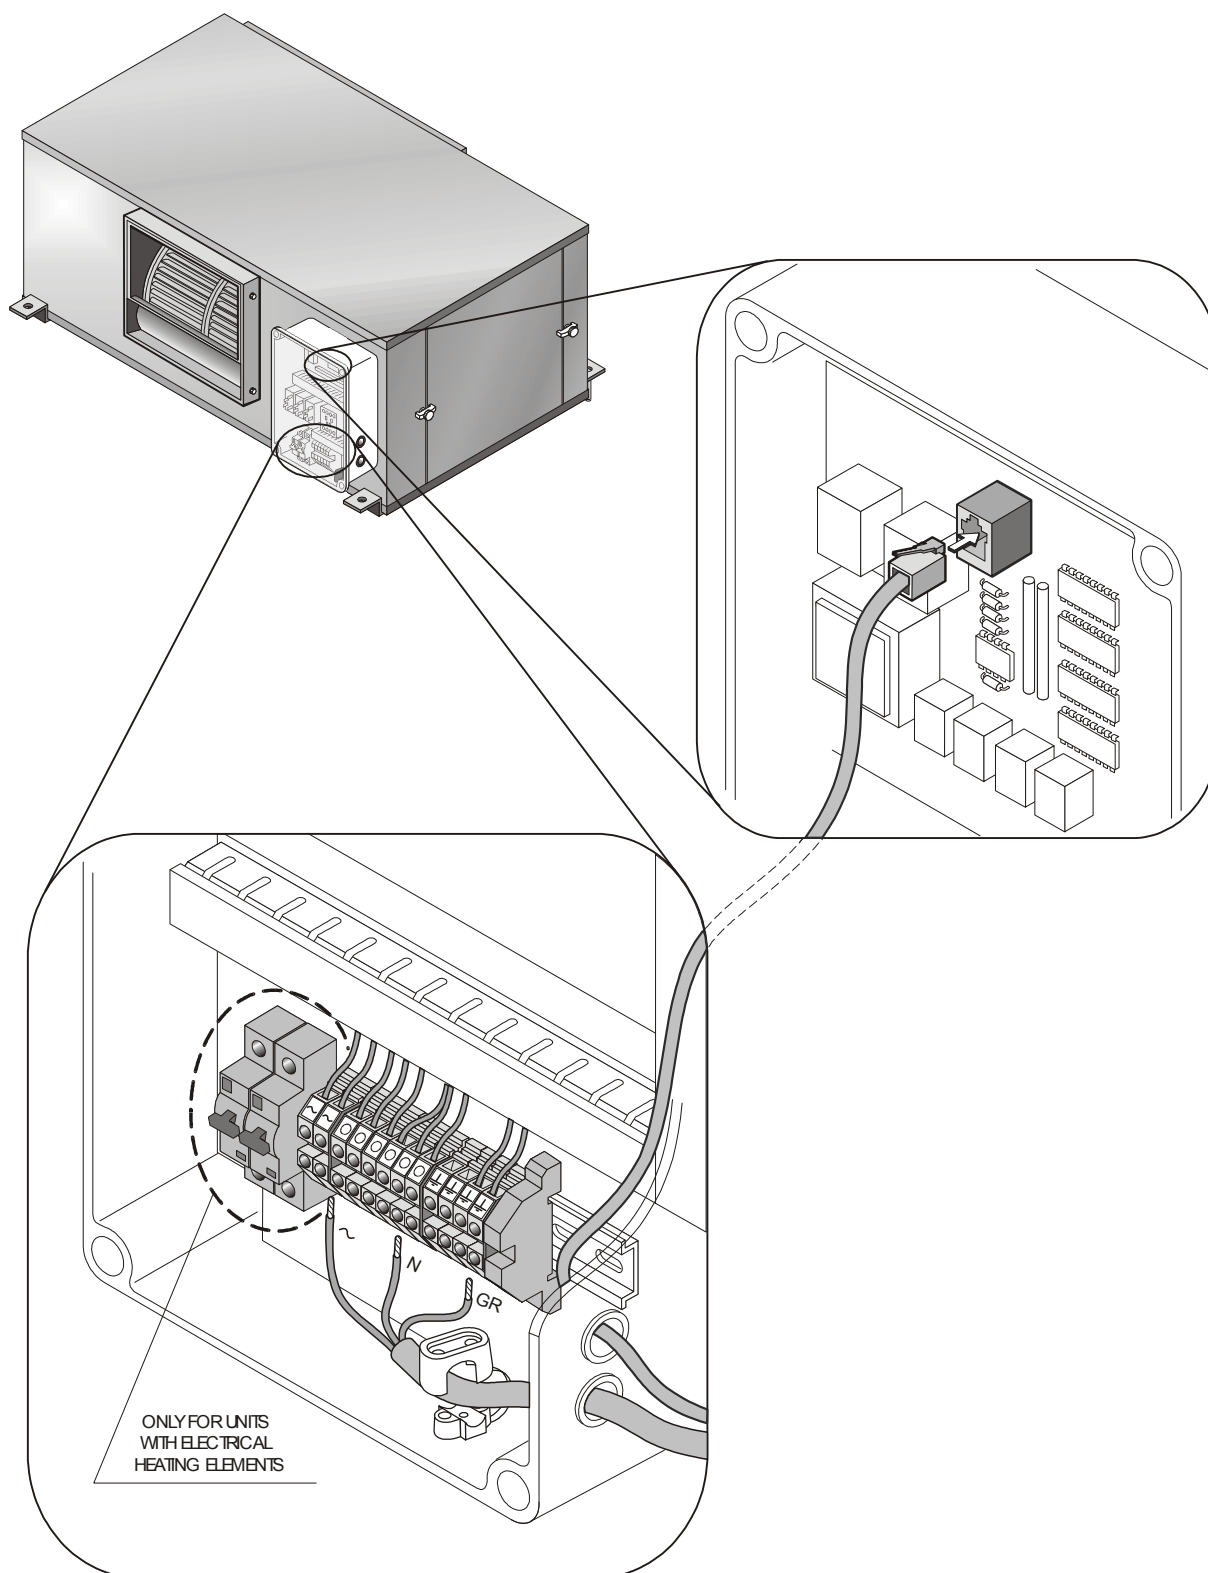

Fig. 8-2
- Locate the terminal box. See Fig. 8-2 and Fig. 8-3.